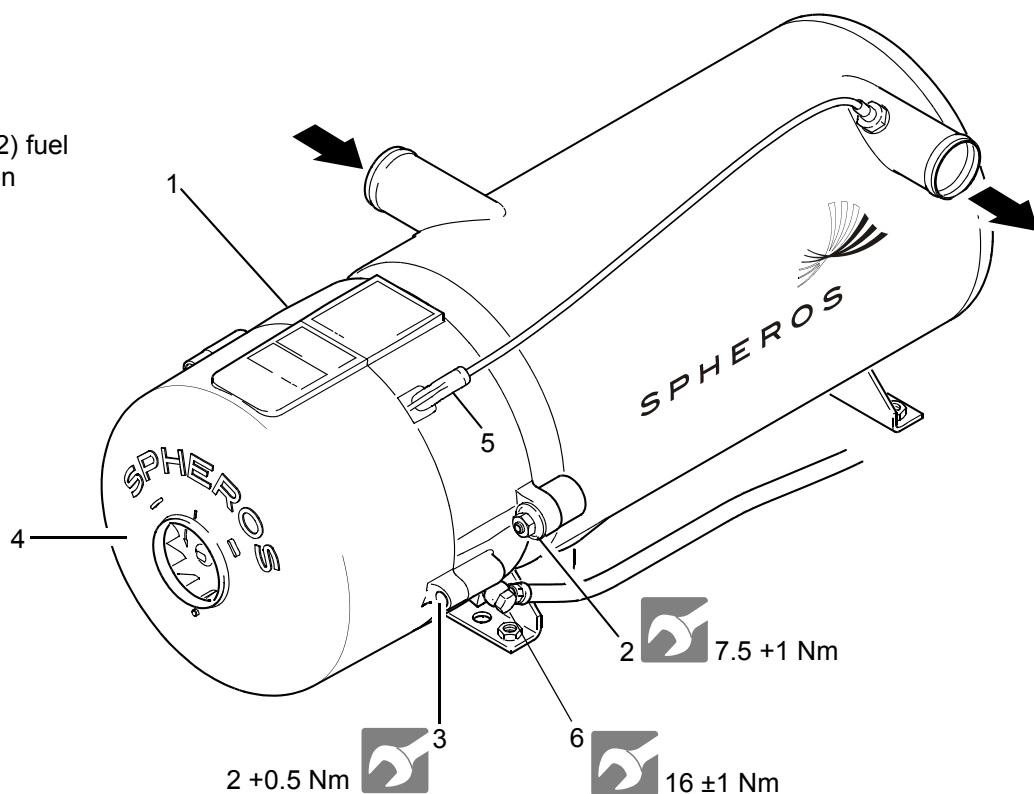
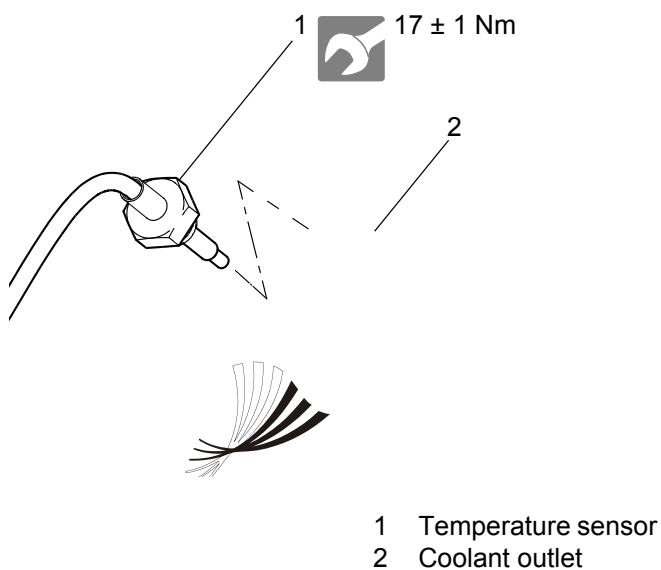

Fig. 801 Burner head / hood removal and installation
Fig. 802 Temperature sensor removal and installation
3. Remove hood (4, Fig. 801).
5. Remove the cable grommet of the temperature sensor (5) from burner housing.
1. Bring burner (1, Fig. 801) in assembly position and ensure center alignment and correct fit.
2. Place nuts (2) and alternately tighten them slightly.
3. Tighten nuts (2).
5. Install the cable grommet of the temperature sensor (5) into the burner housing.
7. Install the hood (4).
2. Remove hood (4, Fig. 801).
4. Remove the cable grommet of the temperature sensor (5) from burner housing.
5. Unscrew and remove temperature sensor (1, Fig. 802).
1. Manually screw temperature sensor (1, Fig. 802) into coolant outlet (2).
2. Tighten temperature sensor (1).
3. Install the cable grommet of the temperature sensor (5) into the burner housing.
5. Install the hood (4).
2. Loosen screws (3, Fig. 801).
3. Remove hood (4).
1. Place hood (4, Fig. 801) in assembly position. Ensure center alignment, proper fit and seal towards heater wiring harness and cable grommet of the temperature sensor.
2. Insert screws (3) and tighten them.